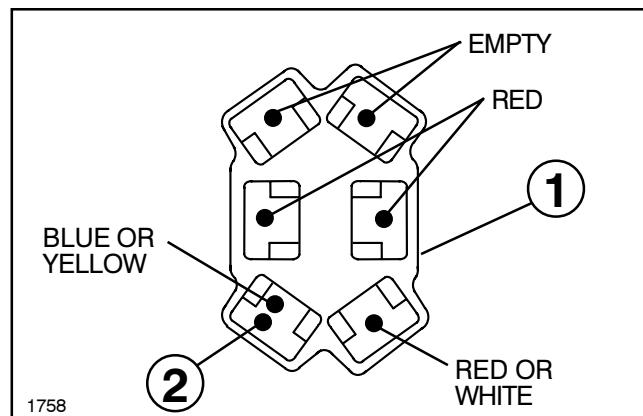

Fig. 15
9. Using the Harness Extension, plug the 1/4" spade Terminals into the main Foam Marker Harness Plug Connector. Plug the Red Leads into the center sockets as shown in Fig. 15. Insert the White Lead into the corner socket with the Red or White wire. Plug the Remaining Yellow w/Blue Stripe wire into the other corner socket, (this socket will have a Blue or Yellow wire). Repeat this step for the other Plug. Connect the Connector Housings to their respective switches in Spray Control Panel (Yellow to L. H. Switch & Blue to R. H. Switch).